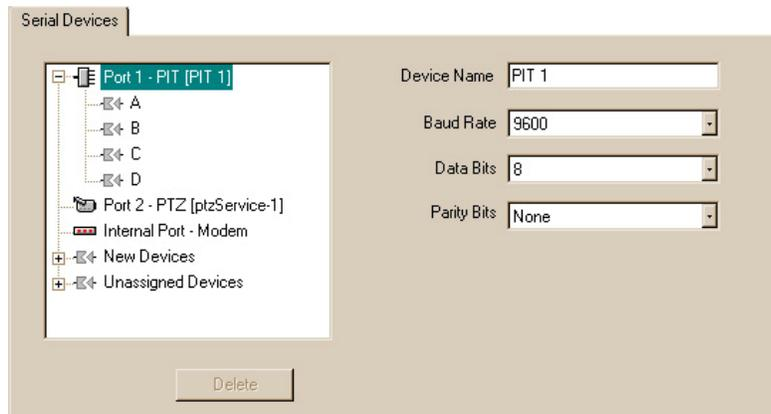

Fig. 16. PIT device on PORT 1, expanded to show 4 ports labeled “A” to “D”.
- **PIT.** From the “New Devices Group”, drag the NetPIT device to a port. See figure 16. You have the option of naming a PIT device.